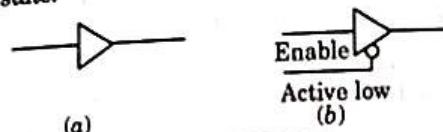

Fig. 1.19.2. A buffer.
4. Fig. 1.19.2 shows a diagram of tri-state buffer. In this buffer, when enable line is low then it behaves as buffer; otherwise it remains in high impedance state.